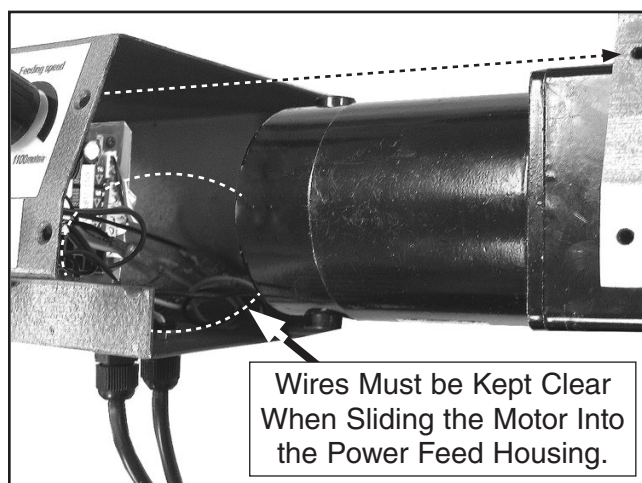

Figure 16. Final assembly.
22. Being careful not to crush or bind the circuit board wires, slide the power feed housing onto the end of the motor (**Figure 16**).